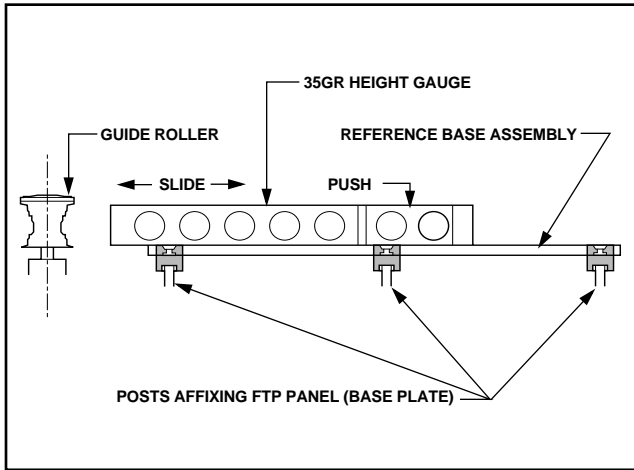

Figure 7
- While pressing the 35GR height gauge gently towards the reference base assembly, verify the height by sliding the 35GR height gauge. (See Figure 7.)